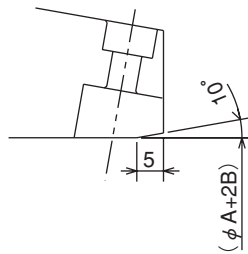

Fig. 13
4. If the slope of work piece is less than 5 degree, it may be usual cylindrical face, while if it is more than 5 degree, provide the taper at the front side of jaw as shown in Fig.13 to prevent the work from interference.